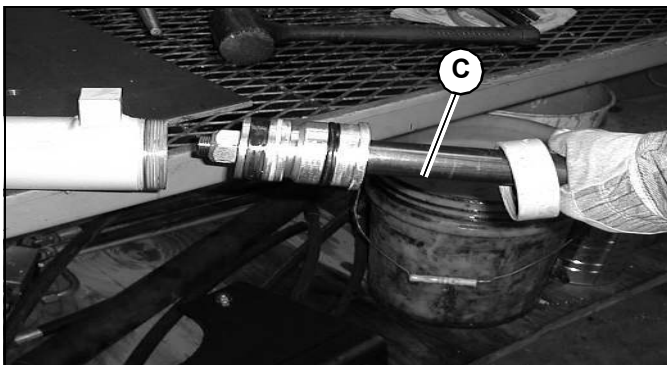

Fig. 173 – Cylinder Rod Assembly Removal
5. Remove the rod assembly (C, Fig. 173) and inspect both the cylinder rod and the tube for dents or nicks that may cause damage to the O-rings and seals.